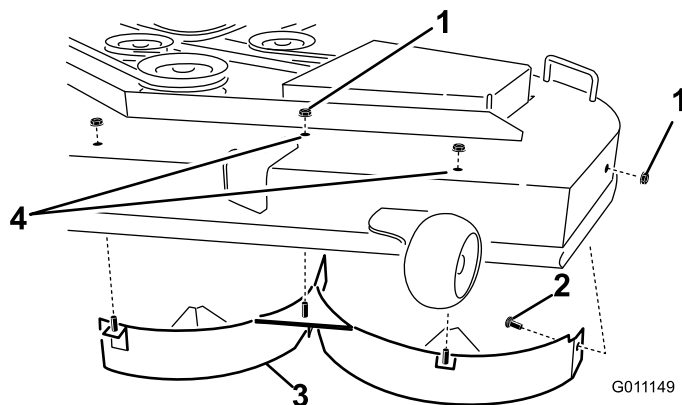

Figure 31
6. Remove the three lock nuts (5/16 inch) secured to the welded posts of the left baffle on the top of the mower deck at the center, left of center and left positions (Figure 31). Remove the carriage bolt and lock nut on the side wall of the mower deck securing the left baffle to the deck.
7. Remove the left baffle from the mower deck as shown in Figure 31.
8. Locate the two bolts and lock nuts in loose parts. Install these fasteners into the holes shown in Figure 31 on the mower deck to prevent flying debris. Install the bolt up, through the underside of the deck and use a lock nut to secure from the topside.